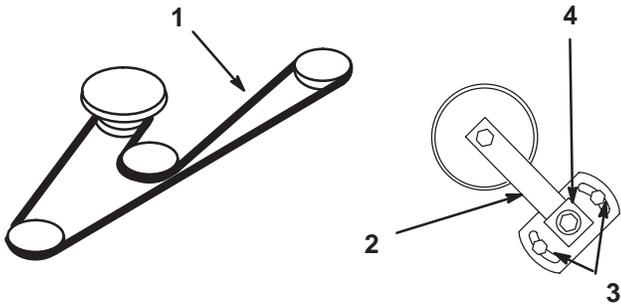

Figure 65
3. Loosen two nuts securing idler plate and move the idler arm to relieve belt tension on the idler pulley, then remove the worn deck belt (Fig. 65).
4. Install the new deck belt around the spindle pulleys, belt guide, the idler pulley, and in the lower groove of the center spindle pulley (Fig. 65).